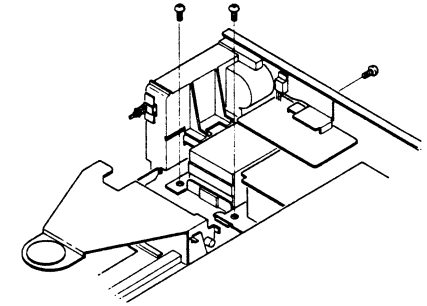

Fig. 15
- (1) Remove the switch rod from the power switch.
- (2) Remove the 2 setscrews of the power transformer. (Fig. 15)
- (3) Remove the radiator setscrew and take the power transformer block out of the chassis. (Fig. 15)